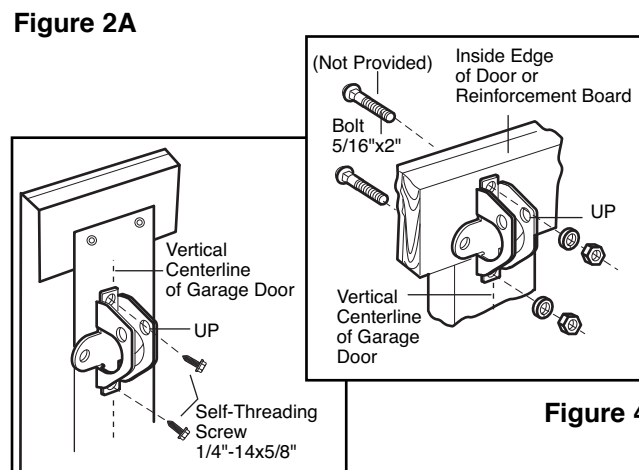

Figure 4
- Use top and bottom or side to side door bracket holes. Drill 5/16" holes through the door and secure bracket with 5/16"x2" carriage bolts, lock washers and nuts (not provided). (Figure 4)